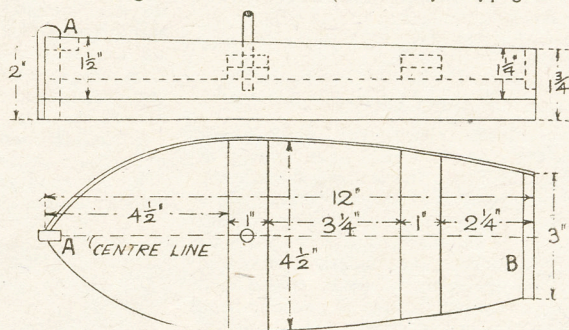
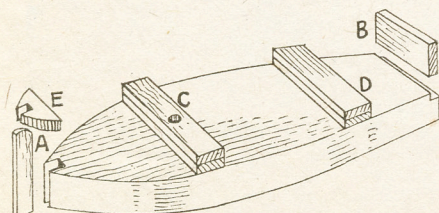
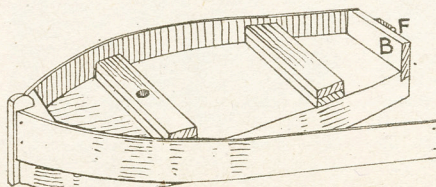

Fig. 1—Side view and plan with dimensions
Fig. 2—Showing details of construction
Fig. 3—How sides are fitted
Next cut a little notch in the bow or pointed end for the piece (A). This piece is 2½ins. long by ½in. wide and ½in. thick. The stern board (B) will be 3ins. long by 1in. wide by ½in. thick and it will rest in a shallow rebate cut in the hull, as seen in Figs. 2 and 3.
Next there are the cross pieces (C) and (D) (Fig. 2) and each is made up of two thicknesses of ½in. pinned together. The lengths of these pieces can be calculated from the plan (Fig. 1) after the measurements shown are set out on the hull piece. Clean off the ends of the pieces level with the hull sides so that the correct curve is preserved throughout.
For the sides of the boat take the measurements direct from the already made-up hull, allowing a trifle in length for chamfering at the bow and fitting to the stern. Thin wood should be used for the sides, and from the side view, above the plan, in Fig. 1 it can be seen
A general clean up should now be made, and the sides and hull gone over with fine glasspaper. To strengthen the fixing between the sides and the bow upright glue in the shaped piece (E), as seen in Fig. 2. The actual size of the piece is marked out direct from the model. See the actual piece fixed in place, Fig. 3.